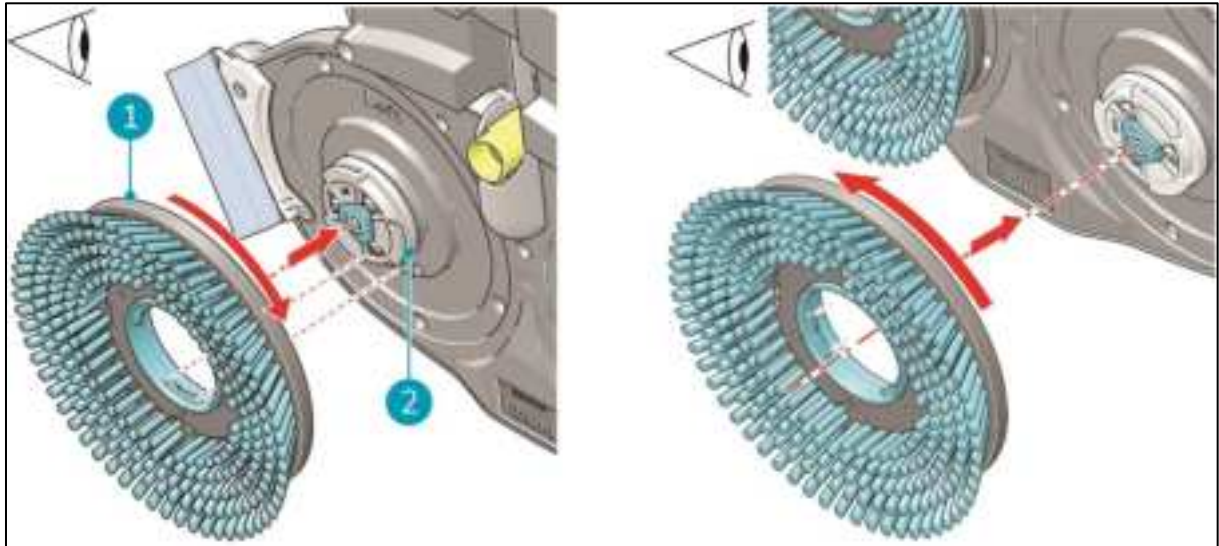

Figure 8
3. Align the left brush (Figure 8, pos 1) with the left motor disk (Figure 8, pos 2). Align the latches and cut-outs in the brush and motor disk.